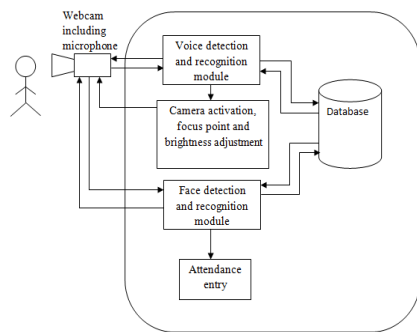
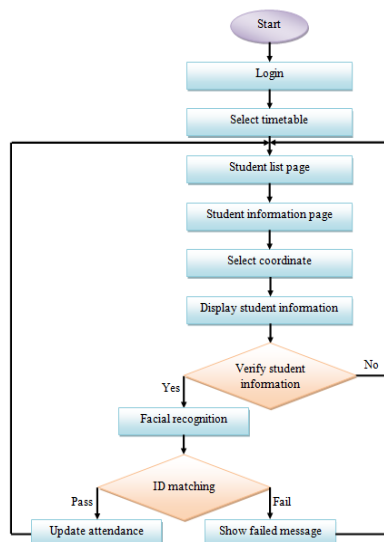

Fig.1. Architecture of attendance logging system
Fig.2 Flow diagram
The architecture of the proposed attendance logging system is illustrated in Fig 1. In this system, the student firstly has to go through the voice recognition module by selecting appropriate coordinates from the student list page. Next, the system will capture student facial image in order to take his/her attendance. Besides, Fig 2 shows the flow diagram of the attendance system.
The antenna is simulated and analyzed with using Return Loss ( $S_{11}$ ), Bandwidth (BW), Radiation Pattern and Gain ( $S_{21}$ ) at 3.5 GHz. The results show that there is remarkable bandwidth improvement. Beside 3.5 GHz resonant frequency, the antenna has been simulated at various WiMAX and LTE bands as well. Initially the transmission line width calculated as 3 mm and then reduced to 2.59 mm for better results. The width and length of the proposed antenna are 30 mm x 35 mm respectively. FIG 2 shows the comparative results of the return loss for the transmission line widths of 3 mm and 2.59 mm.
Figure 2: a) Design of U-shaped detector and work-piece.  $\alpha$  is the incident angle and  $\beta$  is the reflected angle of the laser beam. b) Variation of angle of laser beam reflection on the detectors. c) From left to right: Correct distance between work-piece and head.